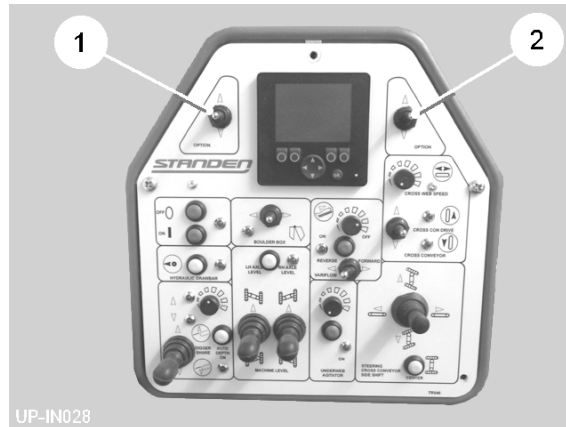

Fig 17a
The switch (item 1, fig 17a) is used to select either the stone elevator fold / unfold function (DOWN position) or swan neck raise / lower function (UP position). The switch (item 2, fig 17a) then operates that function.